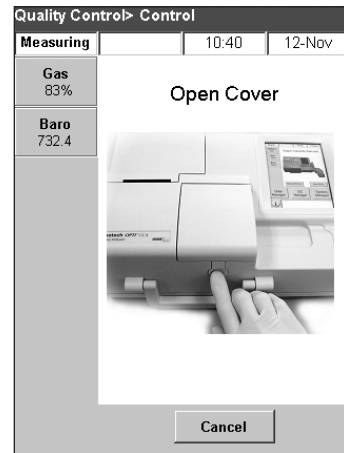

Figure B-7: Open SMC cover
- f. Open the sample measurement chamber cover by pressing the release button (Figure B-7).